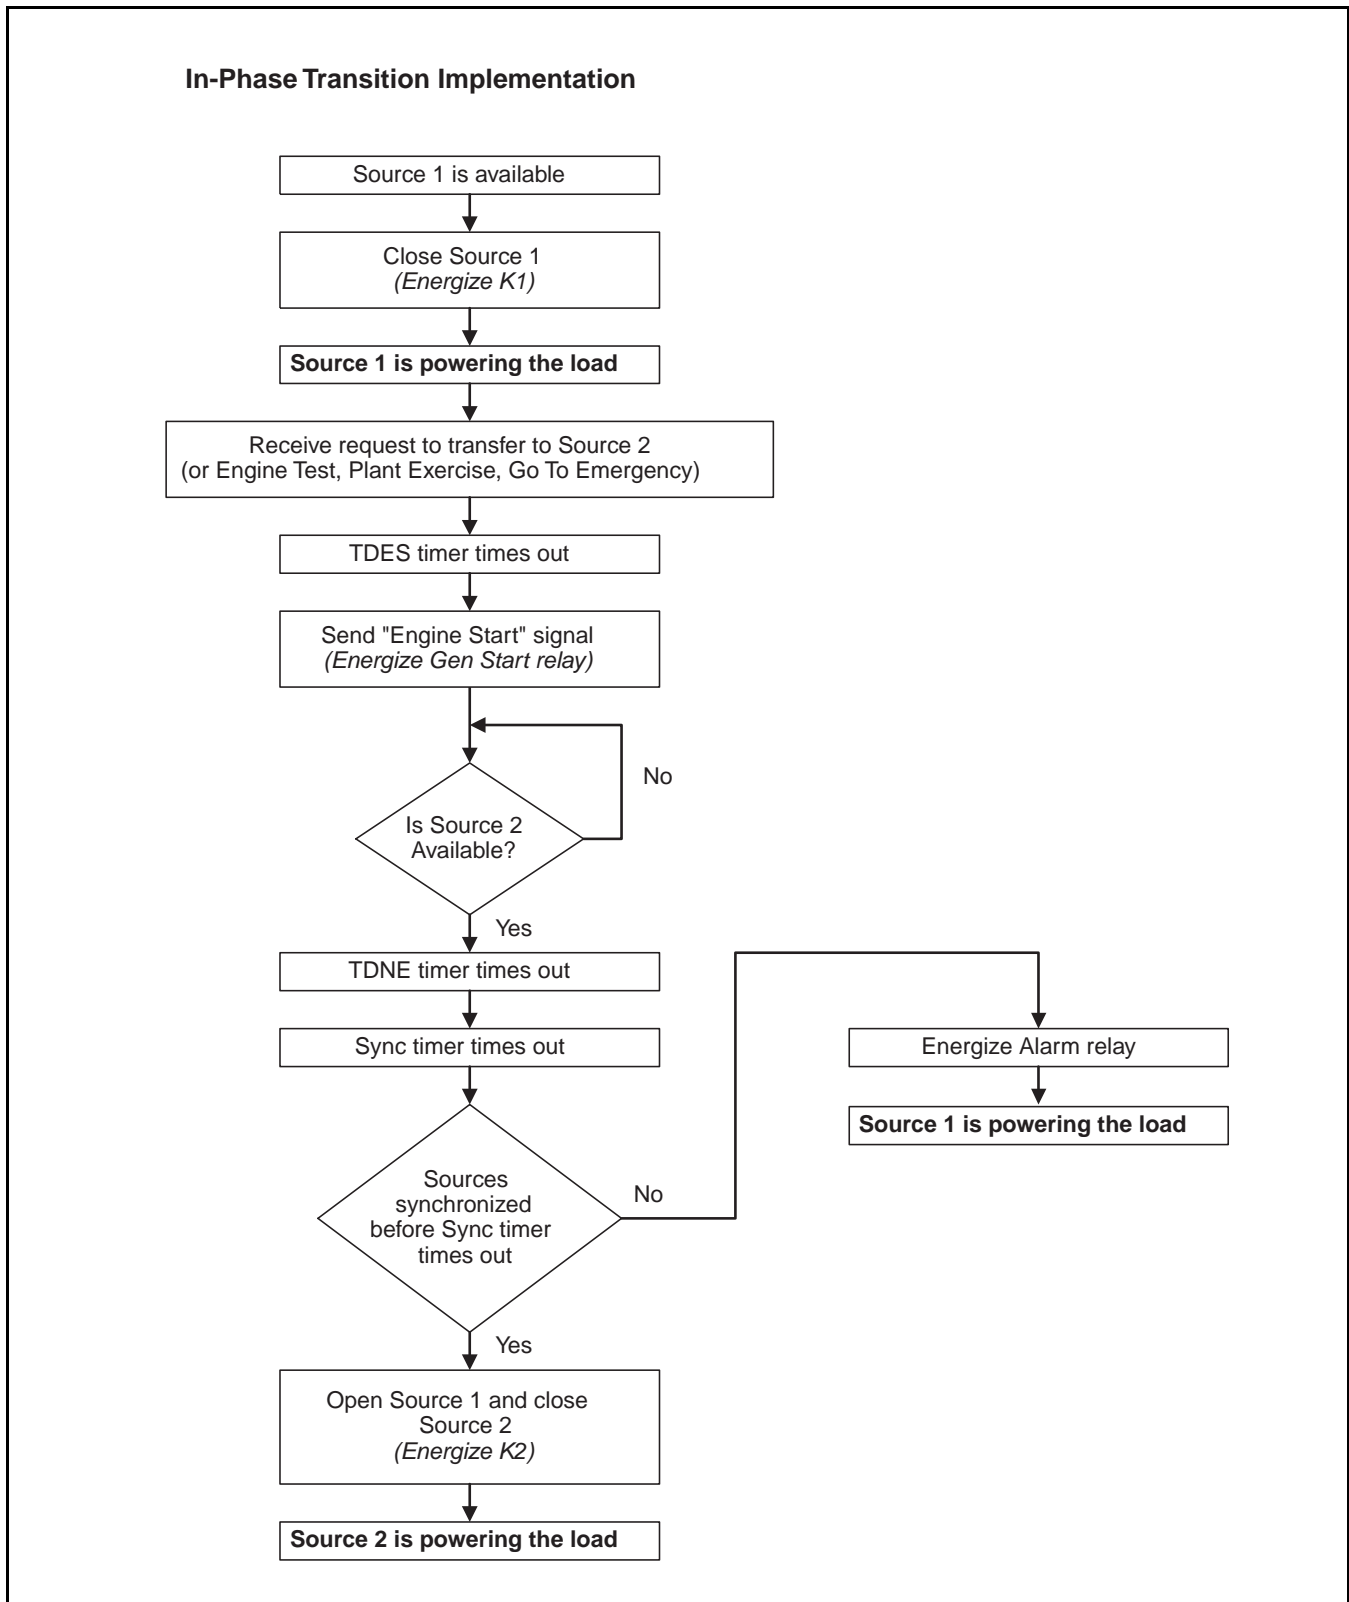

Figure 44. In-Phase Transition Implementation
**Step 8:** Manually start the engine generator at the generator controller (Figure 44). Check that the generator is running and the *Source 2 Available* amber LED is lit. Press the **<Step/Enter>** pushbutton, step through the phase voltages, frequency, and message display. If the source message indicates that the source is Good, shut down the generator and place the Genset controller in the Auto-operating position. If the message indicates a problem with the source, the setpoints should be reviewed and the generator checked for proper voltage and frequency output.